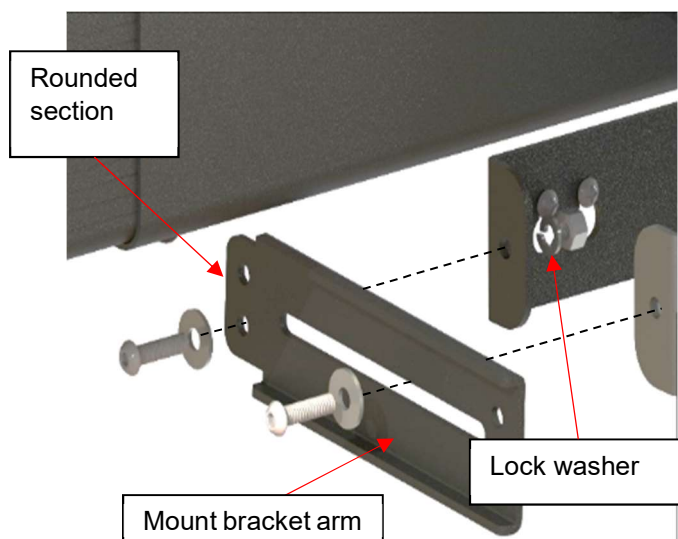

Figure 102
19) Attach the **top** mount bracket arms to the tub mount brackets using the 1/4-20 x 1" hex drive bolt, 1/4" flat washer on the outside. Use a 1/4 lock washer and 1/4-20 nut on the inside. Use a 5/32" (4 mm) drive and 7/16" (11 mm) spanner (Figure 102 and Figure 103)
20) Just as with the top brackets, attach the **bottom** mount bracket arms to the tub mount brackets using the 1/4-20 x 1" hex drive bolt, 1/4" flat washer on the outside. Use a 1/4" lock washer and 1/4-20 nut on the inside. Use a 5/32" (4 mm) drive and 7/16" (11 mm) spanner (Figure 102 and Figure 103)